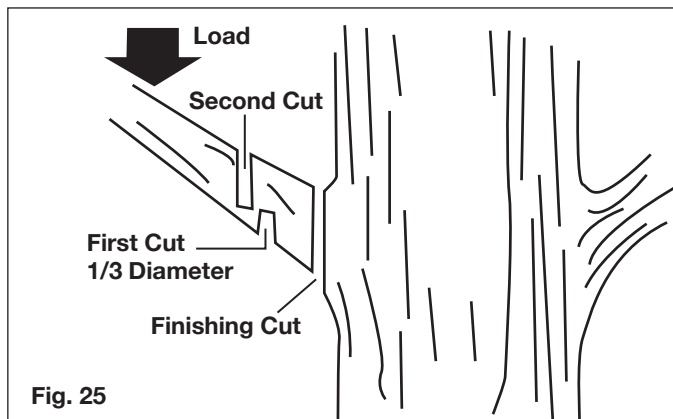

Fig. 25
- Under cut the branch 1/3 through for your first cut. Your second cut should over cut to drop the branch off (Fig. 25). Be prepared to balance the weight of the pole chain saw when the limb falls.